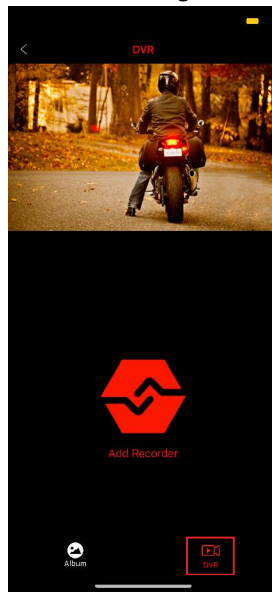

Figure7
5.4 Click [Recorder] in main page, then shift back to main page of recorder;(See Figure 7)